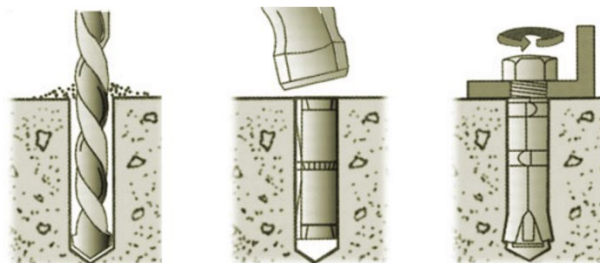
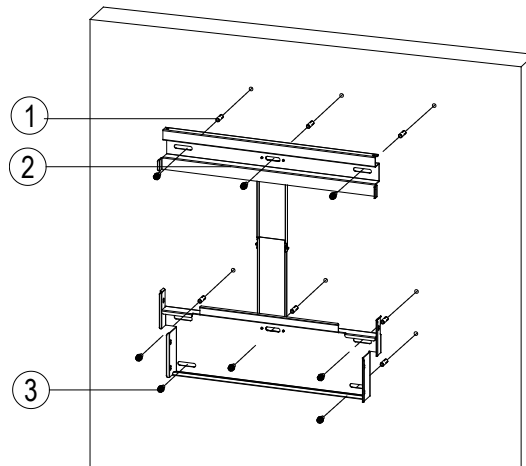

Figure 4-8 Drill holes, set Anchors, and tighten Assembly Bolts
Figure 4-9 Secure the Mounting Bracket
A mounting bracket, shown in Figure 4-9, is provided with each SOLECTRIA PVI 25TL-208, PVI-36TL-480-V2, PVI 50TL-480, and PVI 60TL-480 inverter. The mounting bracket must be securely attached to a structurally sound, flat surface. Acceptable surfaces include U-channel metal racking (such as Unistrut), concrete, and other non-flammable surfaces.
Referring to Figure 4-9, drill holes at the marked positions with a 10mm (0.4in.) drill and put the M8 expansion tubes, labeled as ①, into the holes; assemble and fasten the mounting brackets, labeled as ②, with the M8x25 assembling bolts, labeled as ③, supplied with the accessory kit. Tool: Electric drill (Φ 10mm/0.4in. head), 13mm wrench 240 in-lbs.
Concrete Wall Mount: Drill holes at the marked positions with a 0.4in. (10mm) masonry bit and insert M8 Expansion Anchors into the holes (expansion anchors not provided); Fasten the Mounting Bracket with the M8x25 Assembling Bolts supplied with the Accessory Kit. Figure 4-8 and Figure 4-9. Tools Required: Electric drill (Φ 10mm/0.4in. masonry bit), No. 13 wrench